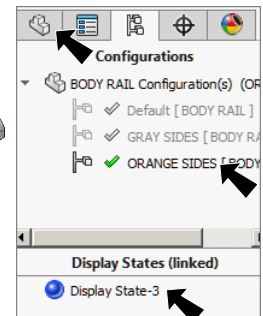

Fig. 177
Step 3. Click **Feature Manager Design Tree** tab  at the top of the Feature Manager Design Tree to return to Feature Manager, **Fig. 177**.